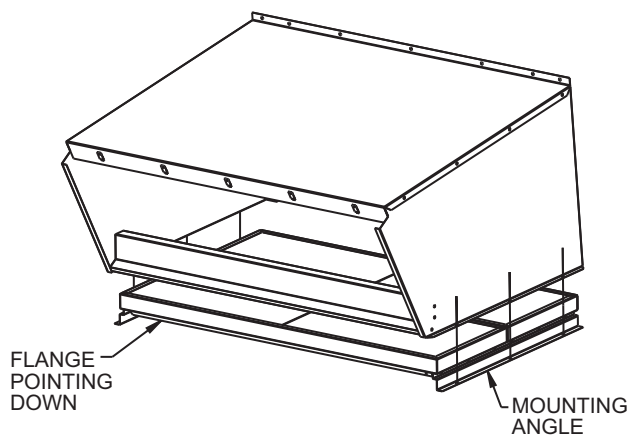

Fig. 40 — Bottom Filters Installed with Flange Pointing Down
12. Attach filter track under the hood assembly. See Fig. 40.